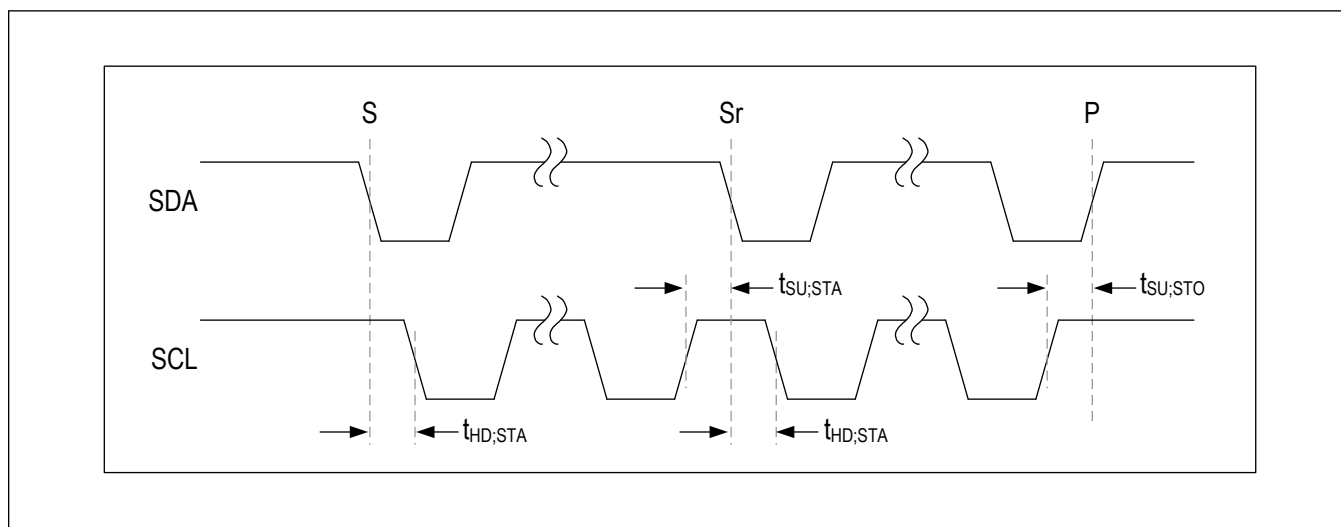

Figure 1. I²C Timing Diagram
The MAX20499C/MAX20499D features an I²C, 2-wire serial interface consisting of a serial-data line (SDA) and a serial clock line (SCL). SDA and SCL facilitate communication between the MAX20499C/MAX20499D and the master at clock rates up to 1MHz. The master, typically a microcontroller, generates SCL and initiates data transfer on the bus. Figure 1 shows the 2-wire interface timing diagram.
A master device initiates communication by issuing a START condition. A START condition is a high-to-low transition on SDA with SCL high. A STOP condition is a low-to-high transition on SDA while SCL is high (Figure 1). A START (S) condition from the master signals the beginning of a transmission to the MAX20499C/MAX20499D. The master terminates transmission and frees the bus by issuing a STOP (P) condition. The bus remains active if a REPEATED START (Sr) condition is generated instead of a STOP condition.